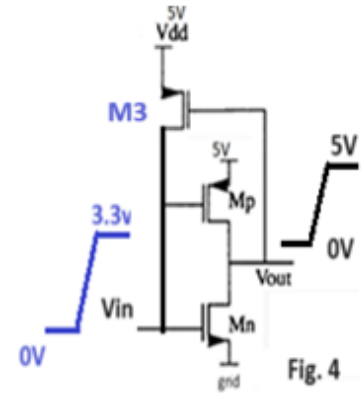

Fig. 4
- c) A low Vdd to high Vdd converter is shown in Fig. 4. Justify that it will have zero static power consumption.